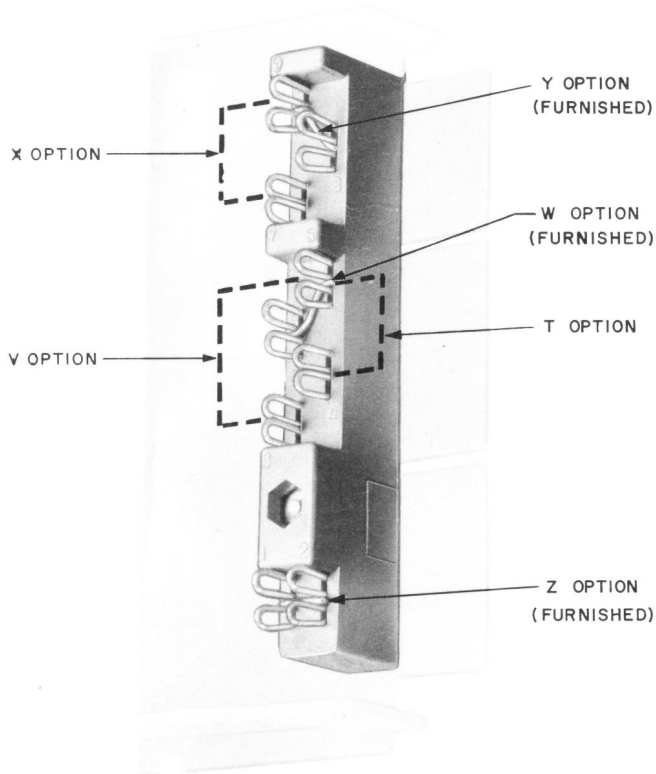

Fig. 6 - 400 Type KTU Circuit Option Block
2.02 Small wire clips, located in a plastic block on the 400-type KTU, provide for different circuit wiring options (Fig. 6). When applicable, change the factory provided or existing option, using
5.01 When required, change wiring options on 400-type KTUs before inserting them into receptacles. (See Fig. 6.)